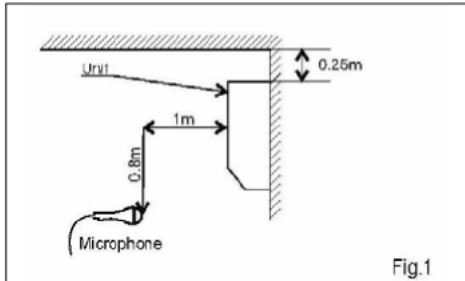

Figure 1. Wall Mounted
7.2 **Soud Pressure Level Spectrum (Measured as Figure 1)**